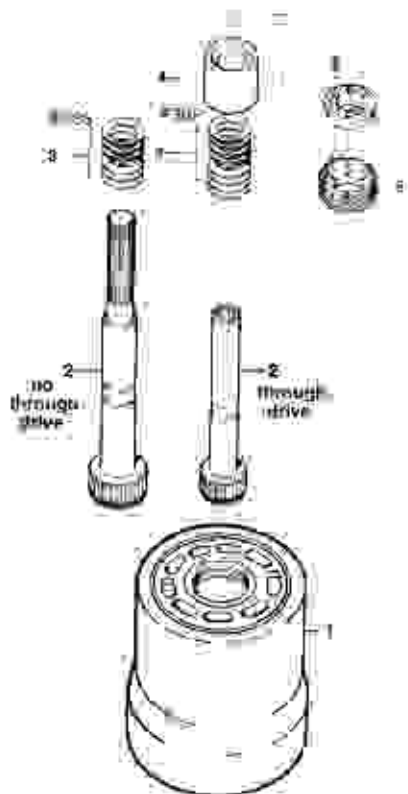

FIGURE 4.1
See figure 4.1. Install auxiliary shaft (2) large spline end first into counter bore end of barrel and engage barrel splines.
PARTS LIST FOR FIGURE 4.1 (P30)